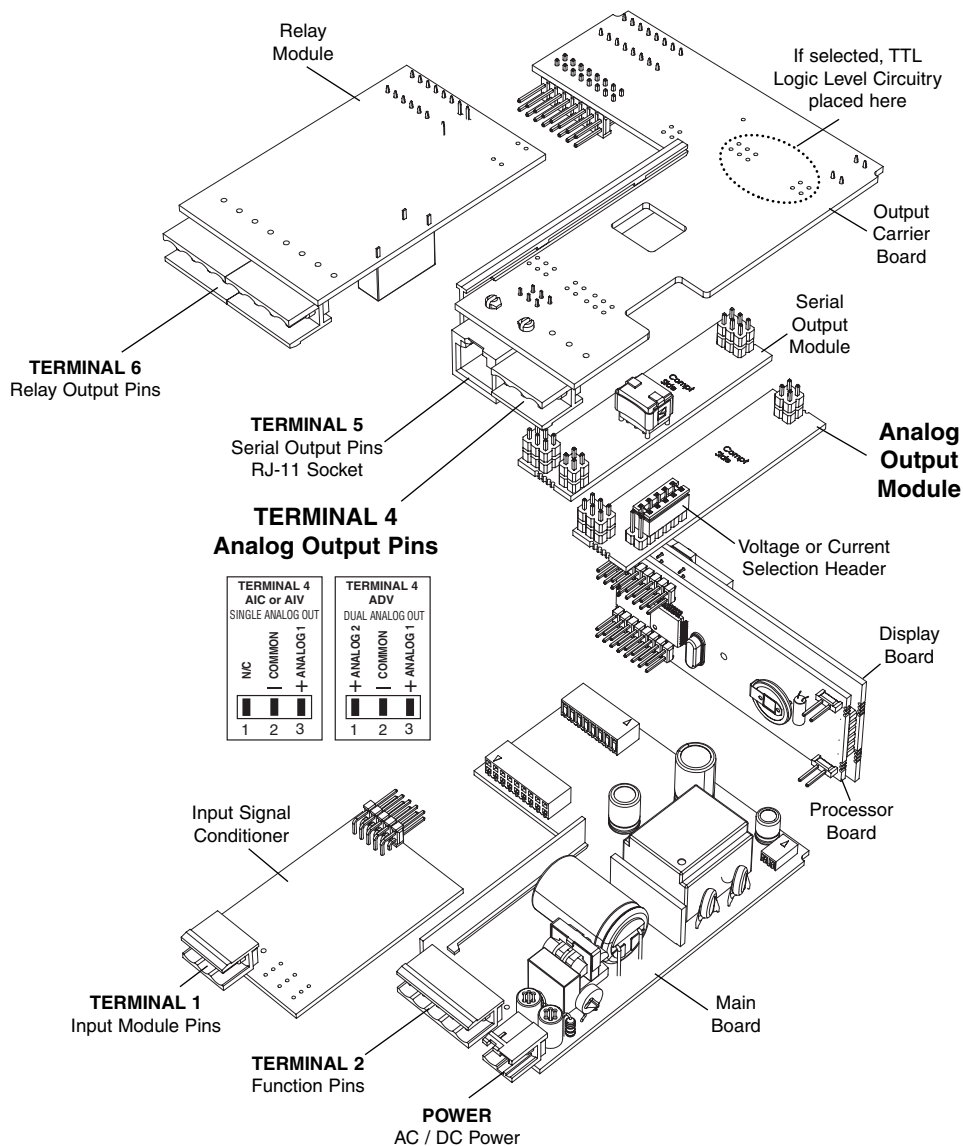

Figure 7 – Exploded View of Meter Modular Boards
- 4) Connect the remote process instrument to Terminal 4 (see Figure 7).
- 4) Connect the PLC to Terminal 4 (see Figure 7).
- 4) Connect the process control device to Terminal 4 (see Figure 7).
- 4) Connect the control equipment to Terminal 4 (see Figure 7).
Pinout details for both single and dual analog output modules are shown in table TERMINAL 4 opposite and Figure 7 below.
In *Figure 7 – Exploded View of Meter Modular Boards*, all circuit boards are shown in an exploded assembly view of the meter without the meter case. All connector terminal numbers or names are identified. These are described in detail in the relevant Tiger user manual.